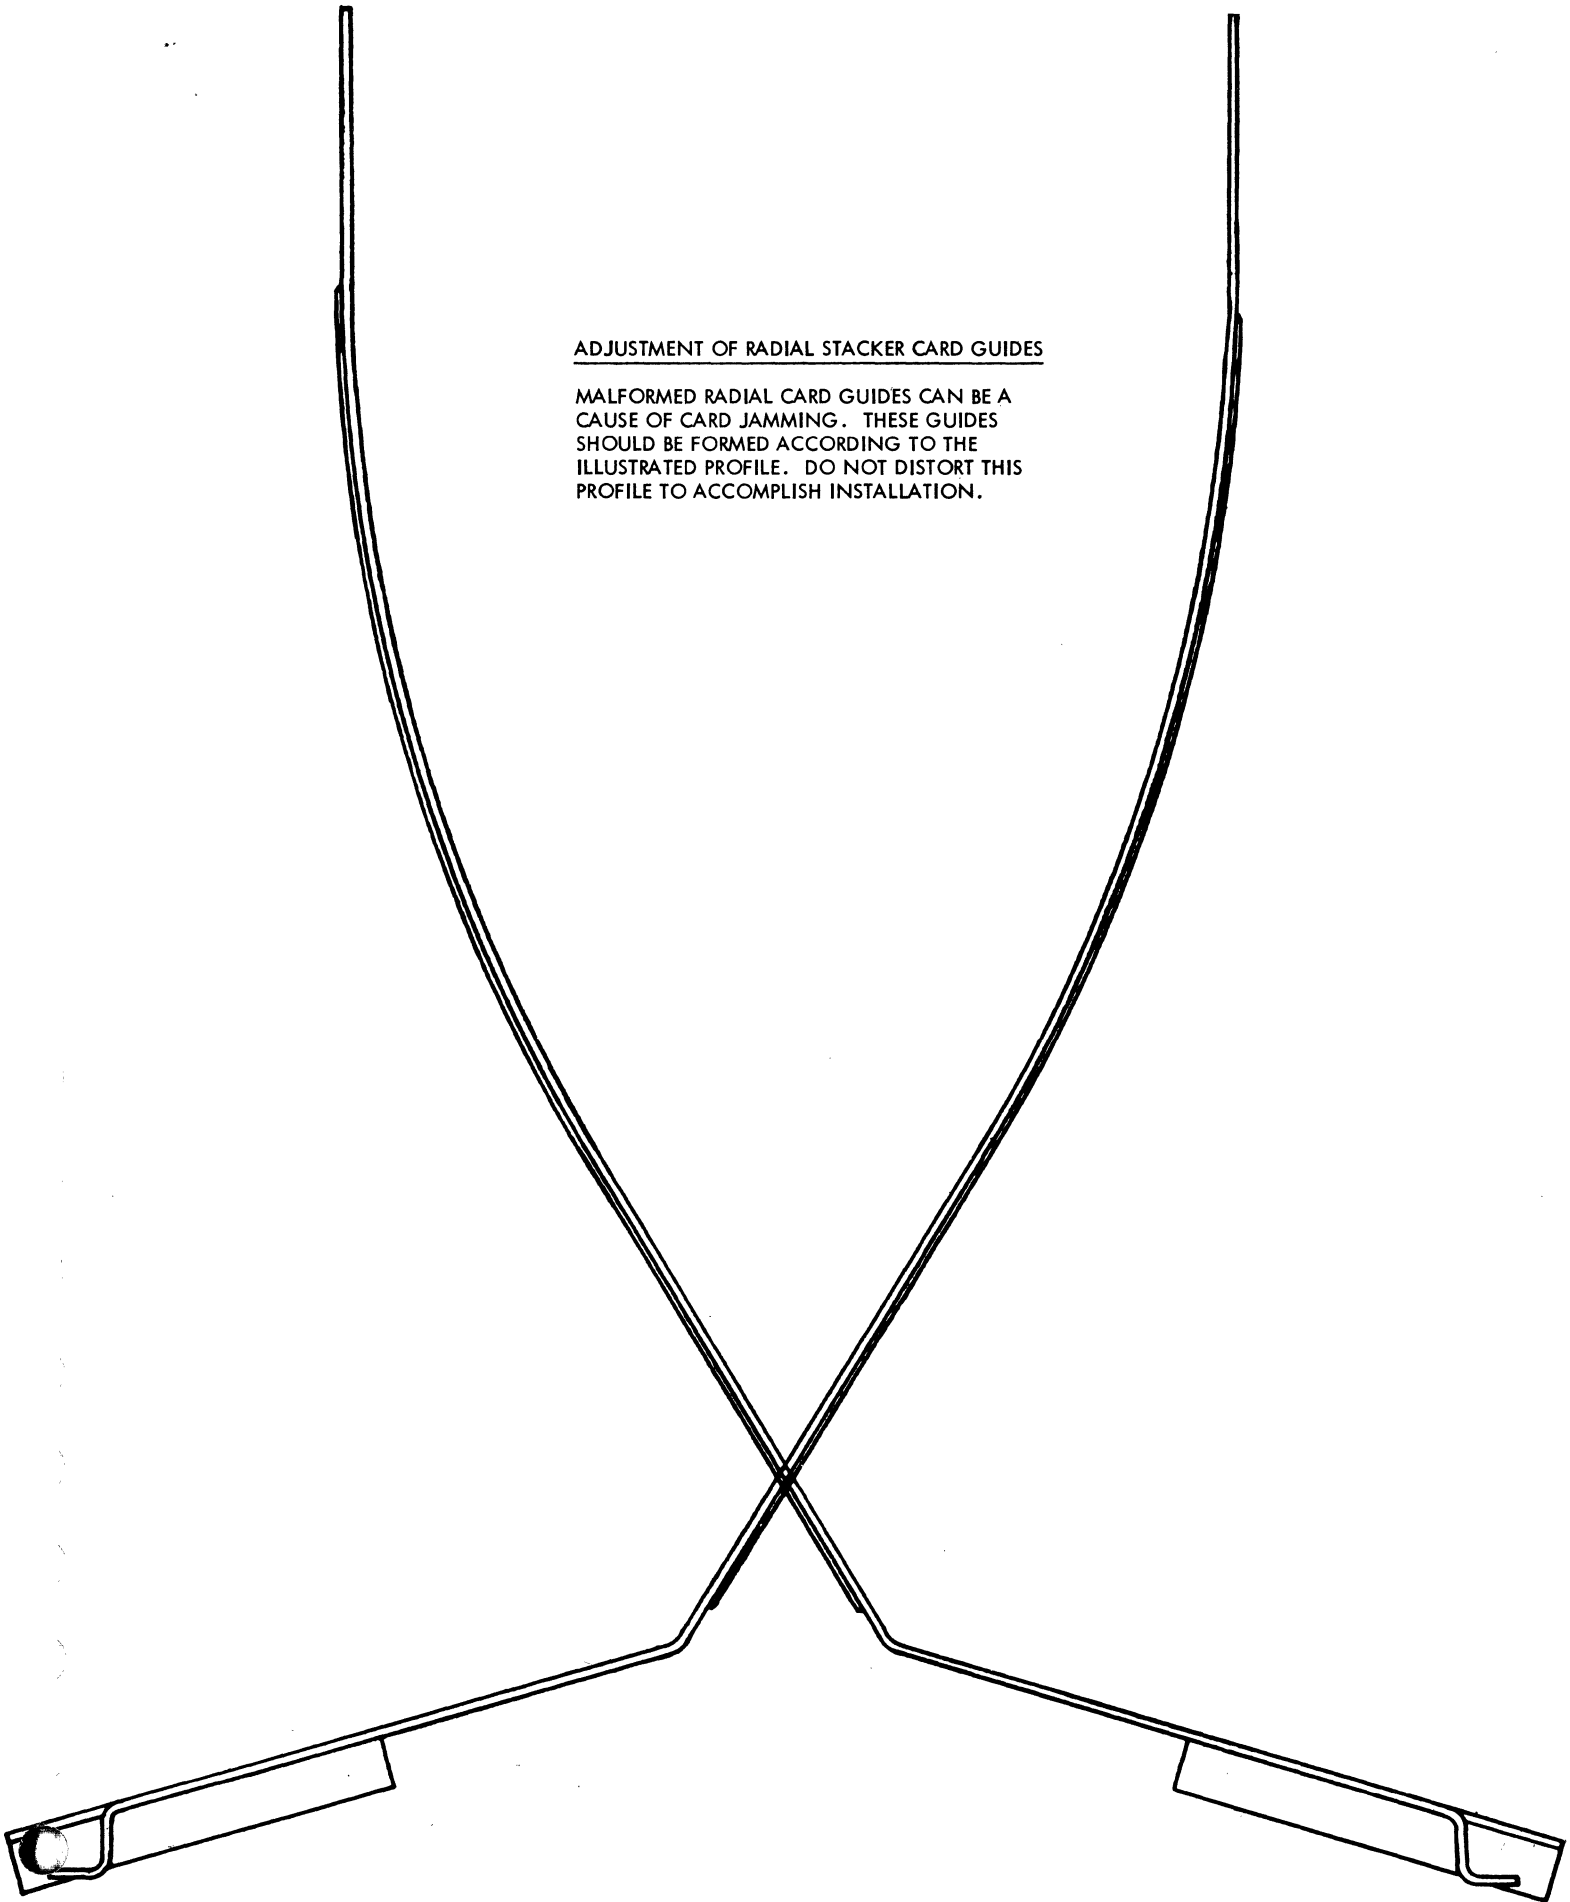

Figure 3-41. Radial Card Guide Outline
3. Form radial guide as in Figure 3-41.